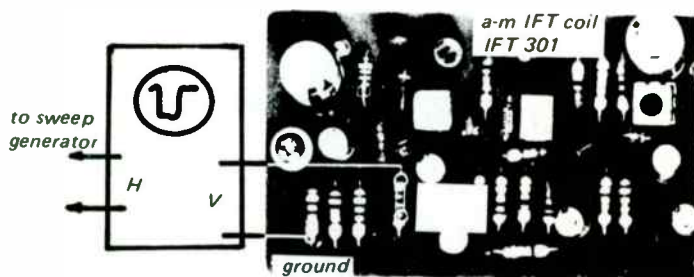
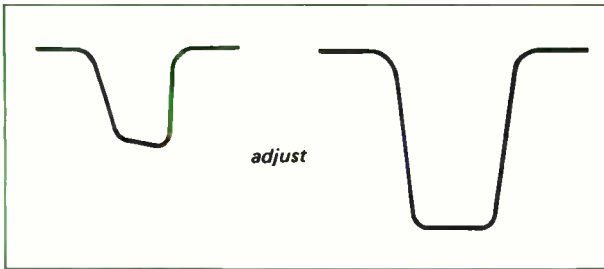
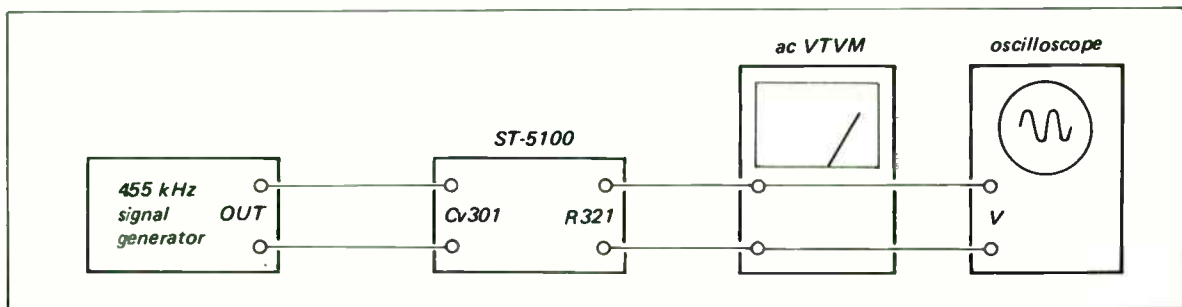

Fig. 3-11 A-m detector output connection
Fig. 3-12 A-m i-f response
Fig. 3-14 A-m i-f strip alignment by rf generator
- Connect the input cable of the oscilloscope to R321 and ground on the a-m tuner circuit board with alligator clips as shown in Fig. 3-11.
4. Turn the top core of (IFT301) (see Fig. 3-11) to obtain a maximum and symmetrical response as shown in Fig. 3-12.
3. With the scope VTVM aconnected as shown in Fig. 3-14, turn the top core of IFT301 (see Fig. 3-11) to obtain maximum output.